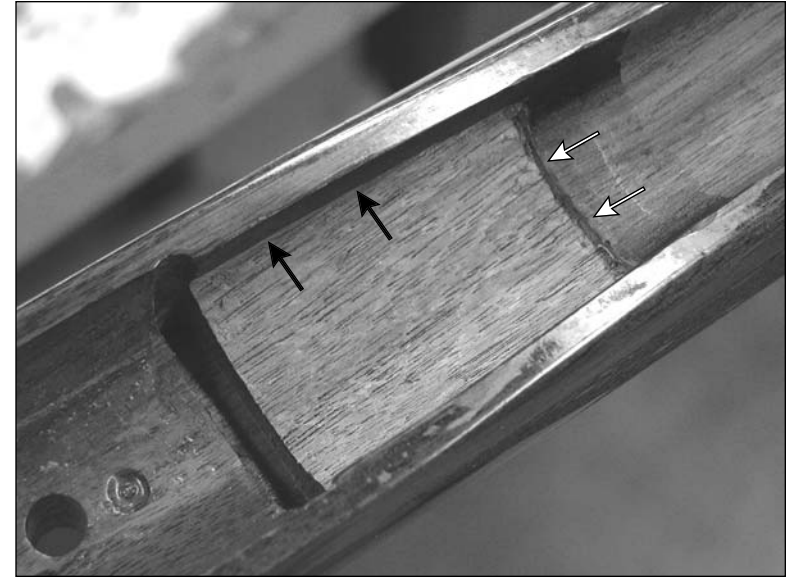

Figure 6C: Properly relieved chamber area. The designated area has been relieved approximately 1/8" to allow for bedding material.
8. Relieve the area between these colored areas to a depth of about 1/18" (.125"). (See Figure 6C).